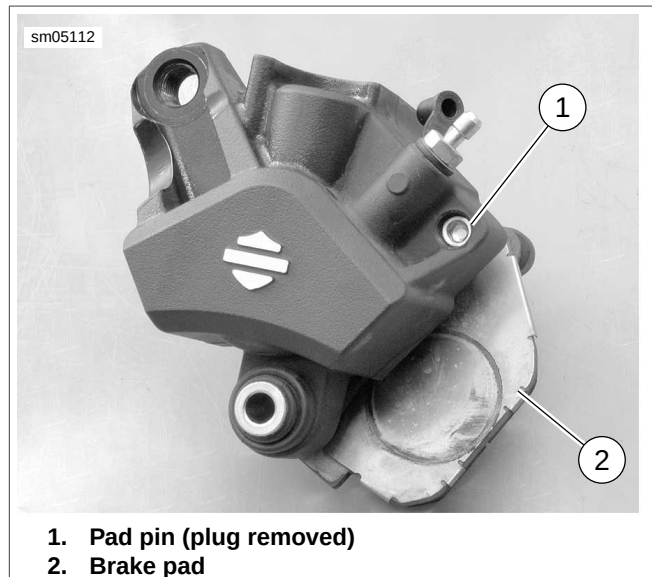

Figure 2-136. Pad Pin
1. See Figure 2-136. Remove brake pad pin plug to expose brake pad pin (1). Remove brake pad pin and pads (2).